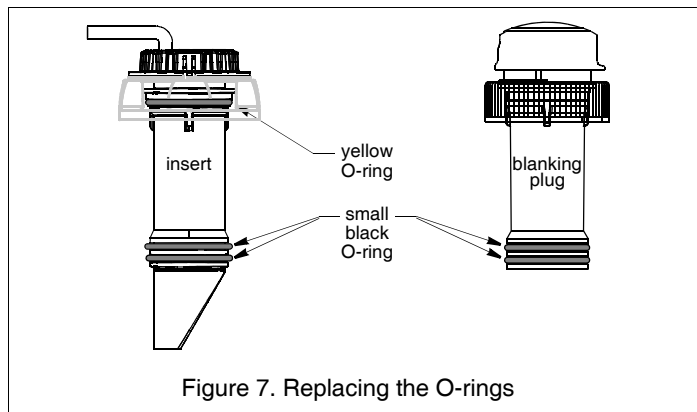

Figure 7. Replacing the O-rings
- O-rings must be intact and well lubricated to make a watertight seal. After the marine sealant cures, inspect the O-rings on the insert (replace if necessary) and lubricate them with the silicone lubricant supplied (see Figure 7). Be sure the **YELLOW** O-ring is in place near the top. Also lubricate the bore of the housing above the valve.
- The O-rings must be intact and well lubricated to make a watertight seal. On the blanking plug, inspect the O-rings (replace if necessary) and lubricate them with the silicone lubricant supplied or petroleum jelly (Vaseline®) (see Figure 7).